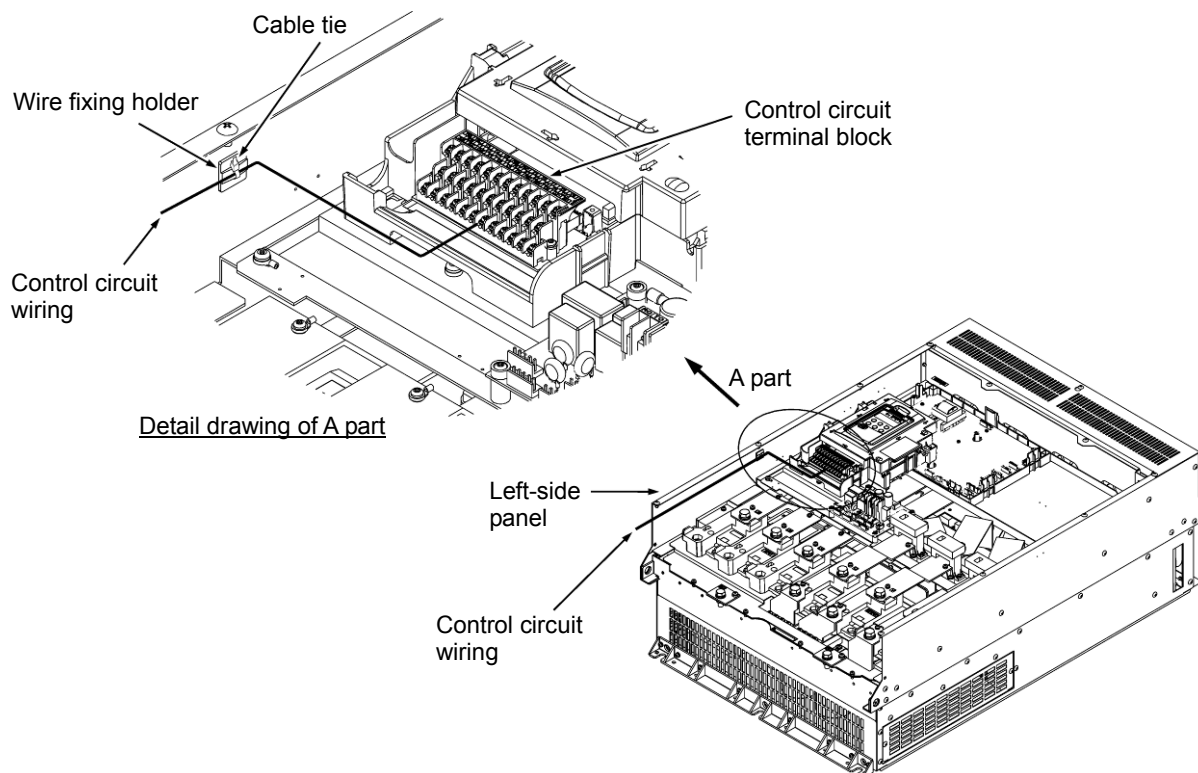

Figure 2.2-16 Control Circuit Wiring Layout and Secured Position
- (1) As shown in Figure 2.2-16, run the wires along the left-side panel of the inverter.
- (2) Secure the wires to the wire fixing holders with cable ties (wire bands, etc.).